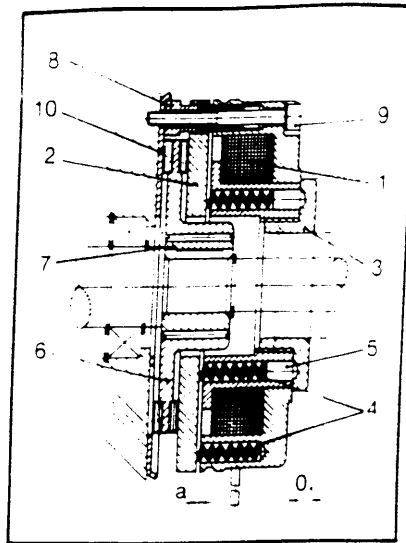

FIGURE 1
The Lenze Electromagnetic Release, Spring Set Brake - Type 14.448, as shown in Figure 1 produces its stopping torque by the use of multiple springs (4) exerting pressure against the armature plate (2). The armature plate, in turn, is forced towards the friction plate (8) (or mounting flange (10)) compressing the dual faced friction rotor (6) between the armature plate and the friction plate (or mounting flange). Figure 1 illustrates the position of the armature plate, friction rotor and friction plate in the set position. The rotor is internally splined to the hub (7) which is keyed to the shaft.
(NOTE: Air gap dimension is illustrated in Figure 1 denoted by "a")
The brake is supplied from the factory with the nominal torque settings. This torque can be reduced by unscrewing the torque adjustment ring (3) with a spanner within the limit of the "0," dimension given in Table 1 and depicted in Figure 1. The torque adjuster ring has dent action with torque variation per step given in Table 1.
In most applications, the brake needs practically no maintenance. However, after a long period of operation, or if the brake has a high duty cycle, adjustment of the air gap ('a', Figure 1) may be necessary. When the 'a max' value shown in Table 3 is exceeded, adjust the value back to 'a' using the air gap adjustment instructions described in Section V, step 9 of the assembly instructions.